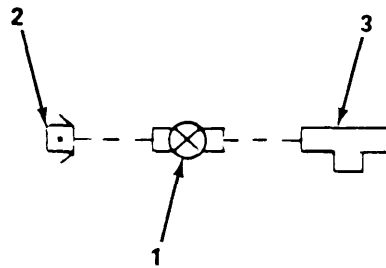

Figure 4-4. Butterfly Valve Removal/Installation.
- (b) Insert butterfly (20) into valve body (10) and position it so that shaft (12) can be inserted into pivot point on butterfly (20). Install shaft (12) and secure in housing with pin (11).
- (c) Assemble O-ring (9) in valve body (10).
- (d) Assemble metallic washer (8) and non-metallic washer (7) and disc (6) on shaft (4).
- (e) Insert shaft (4) and assembled washers and disc into valve body (10) to engage butterfly (20).
- (f) Secure disc (6) to valve body (10) with two screws (5).
- (g) Install cap (3) and handle (2) On shaft (4). Ensure handle will operate in Position installed and secure handle with setscrew (1).
- (h) Install new gasket (16) and dust plug (15) into female coupling half (14).
- (i) Apply sealing compound to threads and screw female coupling half (14) into inlet side of valve body (10).
- (j) Install new gasket (19) in dust cap (18) and secure on male coupling half (17).
- (k) Apply sealing compound to threads and screw male coupling half (17) into outlet side of valve body (10).
b. Replace (figure 4-4.)
(1) Removal.
- (b) Remove butterfly valve assembly (1) from suction hose assembly (2) and tee assembly (3).